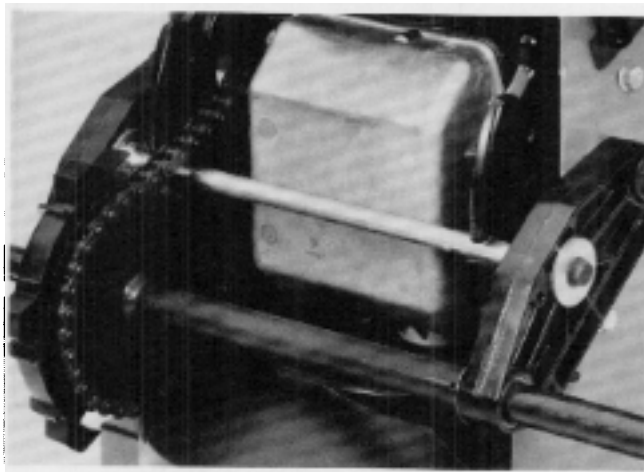

Figure 121
3. Remove the three Phillips head screws securing the two halves of the chain guard and remove the right half of the chain guard. See Figure 121